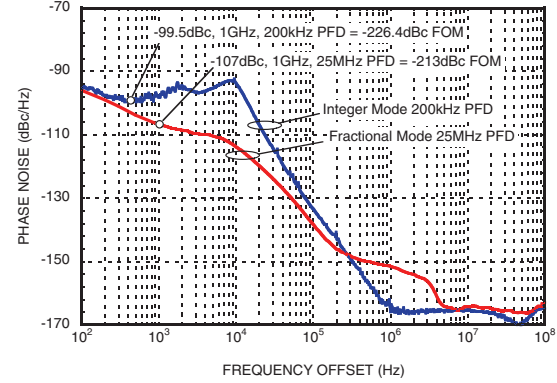

Figure 3.
The HMC700LP4(E) is targeted for ultra low phase noise applications with an external VCO. The synthesizer charge pump can operate with the charge pump supply as high as 5.5 Volts. The charge pump output at the varactor tuning port, normally can maintain low noise performance to within 500mV of either ground or the upper supply voltage (see example (figure 3))